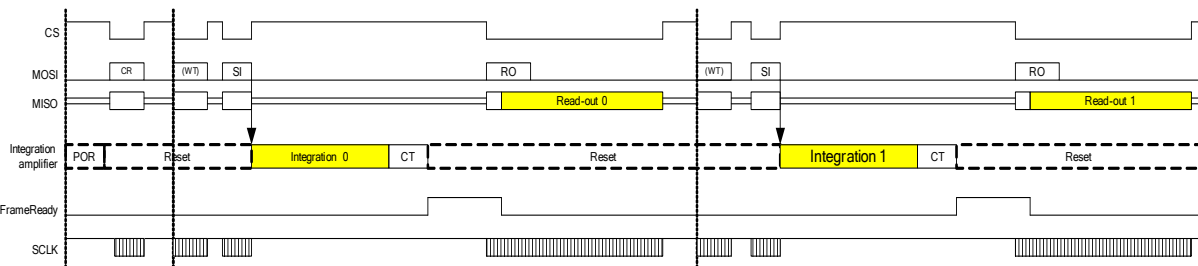

Figure 11: Global timing diagram
A global timing diagram is given in Figure 11. After power-up there is a Power-On-Reset phase (POR) to initialize the sensor in a reset state. The first command is a Chip Reset CR which is needed to fully initialize the device. The first integration cycle (Integration 0) is initiated by uploading a Start Integration SI command. After completion of the integration cycle, there is a minimum conversion time (CT) of a time  $t_{fr}$  after which the *FrameReady* goes high. This indicates that the read-out cycle can be started. When the read-out is completed, a new integration cycle can be started.
The first integrate/read-out cycle after power-on/chip reset is considered as a dummy scan and as such, the data has to be disregarded (“Read-out 0” in Figure 11).